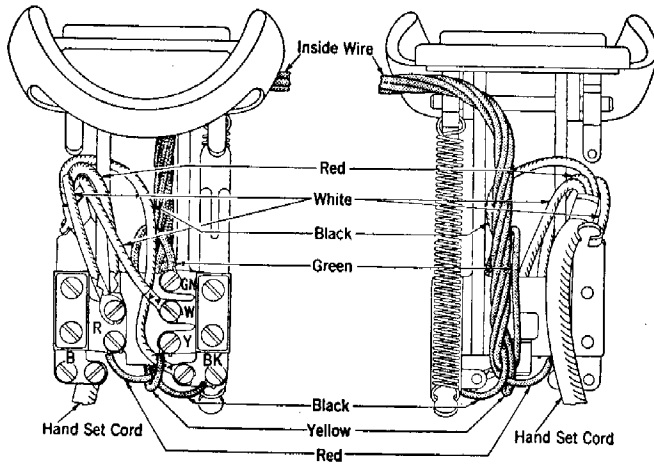

Fig. 1—G1 Type Hand Set Mounting (Manual)
2.01 The **G1 Type Hand Set Mounting** for manual stations is cored as shown on Fig. 1.